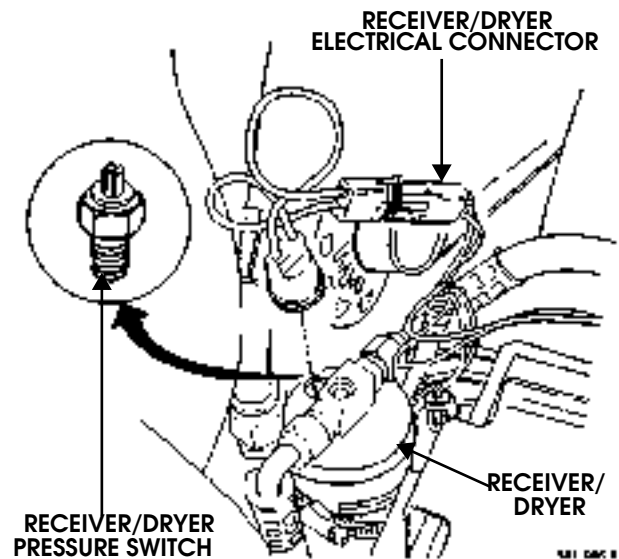

Figure 11-16: Receiver/Dryer Pressure Switch Mounting
1. Disconnect pressure switch jumper connector from receiver/dryer pressure switch (Figure 11-16).
1. Thread the new pressure switch on the receiver/dryer fitting by hand and use a wrench to finish securing the pressure switch. (Figure 11-16).